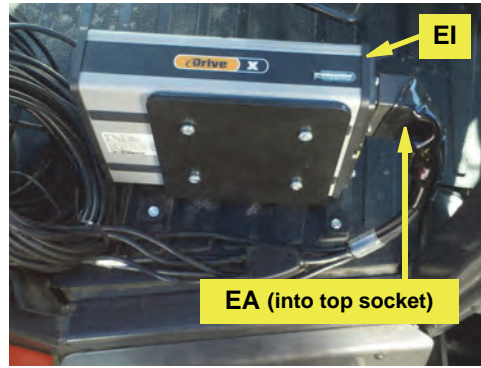

Figure 2a: Installed ECU main cable
- a. For ZTX machines only, cut the thick corner off the single-hole end of WAS assembly bracket **WK** (Figure 2a right inset). Mount **WK** on the back of the right front axle. Use the bolt nearest (and below) the outer end of the steering cylinder (Figure 2a and left inset). Mount the bracket with its WAS assembly flange pointing to the rear (Figure 2a).
Figure 2a with insets: WAS mounting bracket installed (right inset - WK modification for ZTX)
- a. Connect cable **EA** to the ECU **EI** using an Allen wrench to secure the cable to the ECU (Figure 2a). The **EA** connector will fit only the ECU socket that is in line with the power and communications indicators at the opposite end of the ECU. Connect **EA** to the top socket on **EI** in this installation.